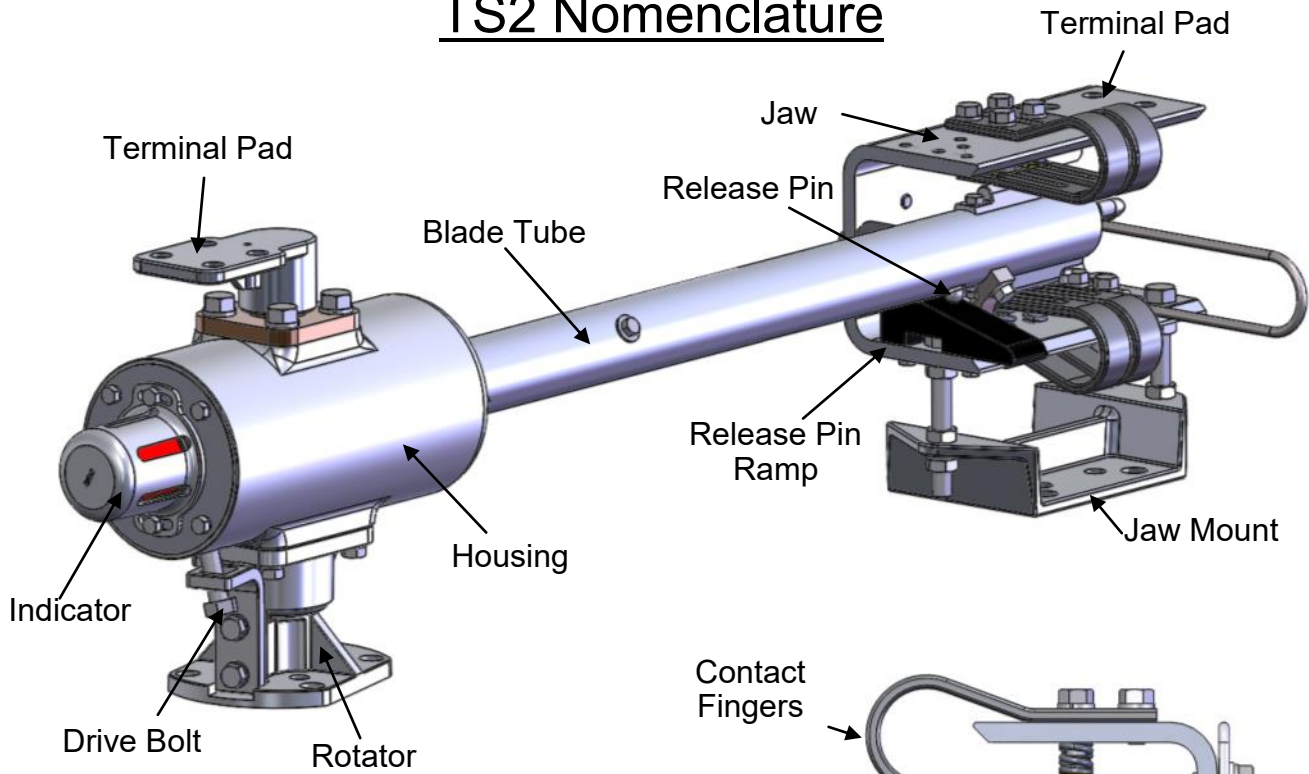

Figure 1 — Live parts shown in latched position
- 2. Add the live parts to the insulators. Live parts are shown in Figure 1. Pay careful attention to the orientation of the pivot levers on the pivot and the live parts to make sure that they match the drawing.
shown in Figure 1.